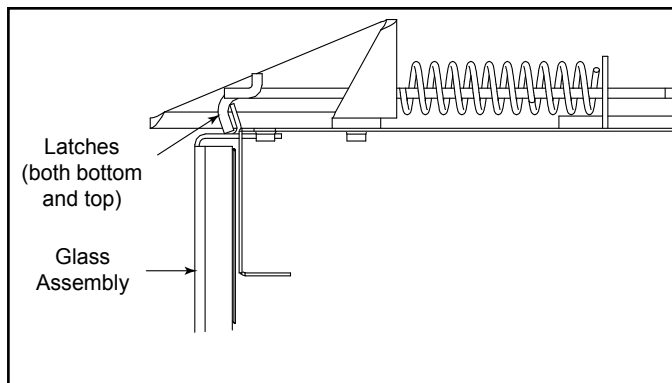

Figure 11.2 Fixed Glass Assembly
- Replace glass latches. See Figure 11.2.